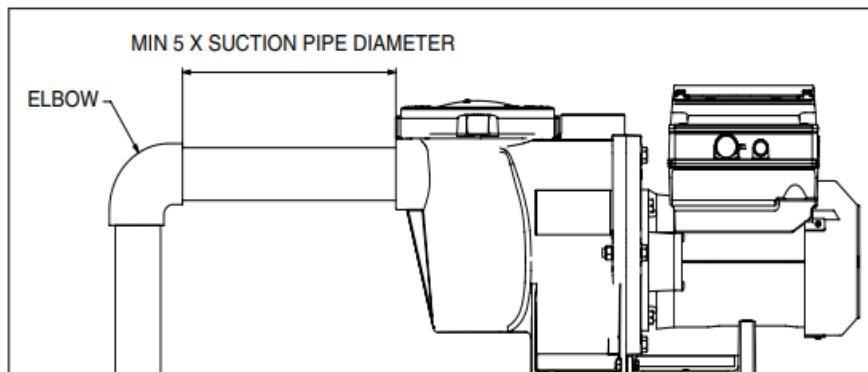

Figure 2: Recommended Piping
We also recommend a valve, elbow or tee installed in the suction line should be no closer to the front of the pump than five (5) times the suction line pipe diameter. See Figure 2.